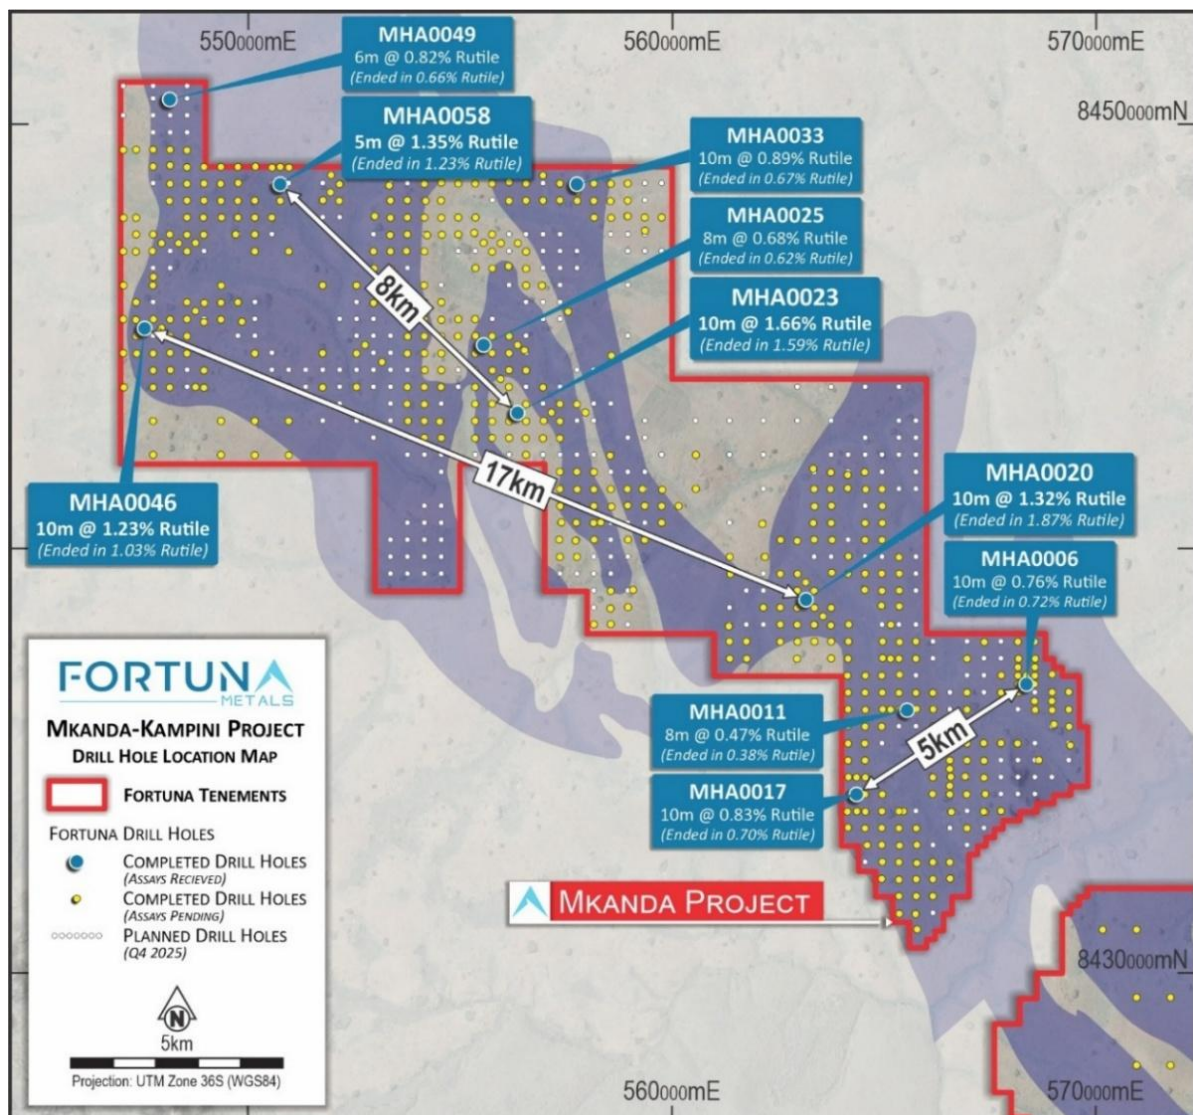

Figure 1. Rutile results across Mkanda project showing high grade over wide areas.
- **Exceptional drill results from first selected batch of 10 hand auger holes demonstrate high grade mineralisation from surface to 10m, with all holes ending in mineralisation and remaining open at depth, with a peak bottom of hole assay of 1.87% from 8-10m (MHA0020), Figure 1, Table 1**
The drilling results demonstrate high grade rutile continues from surface to end of hole, with 4 drill holes ending in mineralisation above 1.0% rutile, and 9 of the 10 drill holes ending in mineralisation above 0.5% rutile. These 10 drill holes were selected for priority assay as a first pass to highlight the wide spread nature of the rutile mineralisation at Mkanda, Figures 1 and 2.